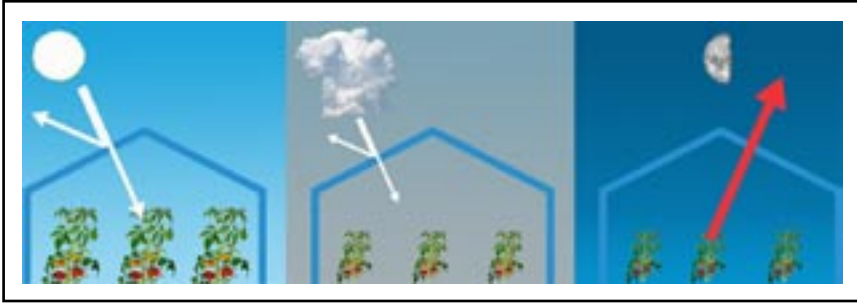

Figure 3. Effects of using white wash.
**Controlling Light.** It is relatively simple to control the amount of light entering a greenhouse. A simple method is to apply whitewash to the outside cover and is of most benefit only during bright sunny conditions (Fig. 3). This is of course going to